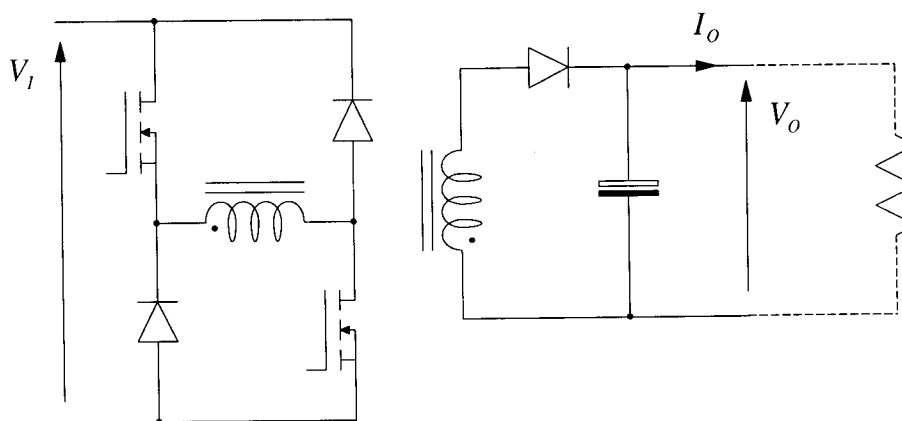

Figure 4, An isolated Flyback switch-mode power supply
- (b) **Figure 4** shows an isolated Flyback switch-mode power supply employing two primary-side switches. Describe the advantages this circuit has over a circuit with one primary-side switch.
- (c) The circuit of **Figure 4** has been implemented with a transformer with a 20:1 turns ratio (primary : secondary) and a primary inductance of 2 mH. It is to be used to with an input voltage of $V_I = 340$ V and an output voltage of $V_O = 15$ V.